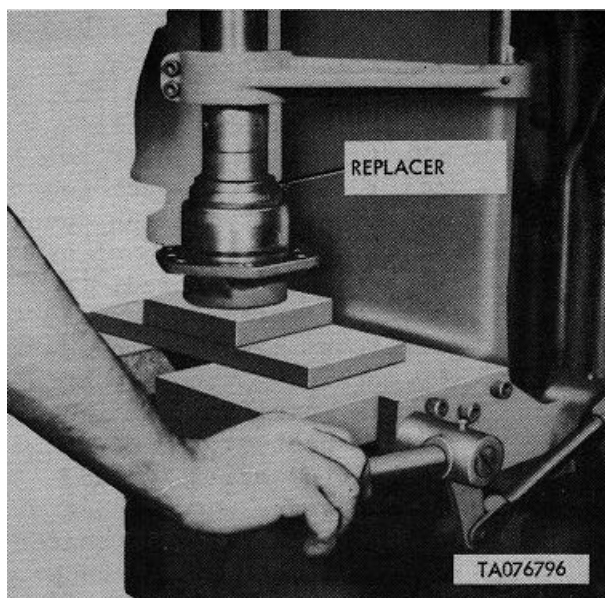

Figure 4-19. Axle - Roller Bearing Cups Installation Using Replacer
- (c) Attach ring gear (9) to right axle housing assembly (8) using 12 each nuts (24) and bolts (25). Tighten bolts (25) to 33 - 37 ft-lb torque. Install axle drive gear (10) in spider (11). Join right axle housing assembly (8) and attached ring gear (9) to spider (11) by pressing in dowel pins and seating axle drive gear (10) and six pinion gears (7) in proper holes in right axle housing assembly (8). Secure axle housing assemblies (12) and (8) to spider (11) using 12 capscrews (23). Tighten capscrews (23) to 60 - 65 ft-lb torque. Safety tie screws in pairs with lockwire.
- (d) Key six planetary gears (5) to ends of six pinion gears (7) installed in axle housing assemblies, using six woodruff keys (6). Secure planetary gears (5) to pinion gears using six retaining rings (4).
- (e) Press two brake drum assemblies (2) on axle housing assemblies (8 and 12).
- (f) Press cones of two roller bearings (1) on axle housing assemblies (8 and 12). Press cups of two roller bearings (1) in retainers (29) using replacer, special tool (33, fig. 1-2). Refer to figure 4-19.